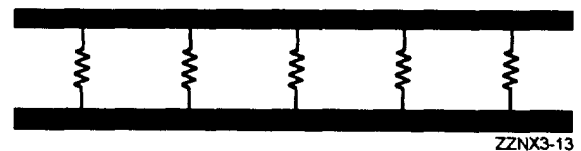

Figure 3-5.—Leakage in a transmission line.
Since any dielectric, even air, is not a perfect insulator, a small current known as LEAKAGE CURRENT flows between the two wires. In effect, the insulator acts as a resistor, permitting current to pass between the two wires. Figure 3-5 shows this leakage path as resistors in parallel connected between the two lines. This property is called CONDUCTANCE (G) and is the opposite of resistance. Conductance in transmission lines is expressed as the reciprocal of resistance and is usually given in micromhos per unit length.